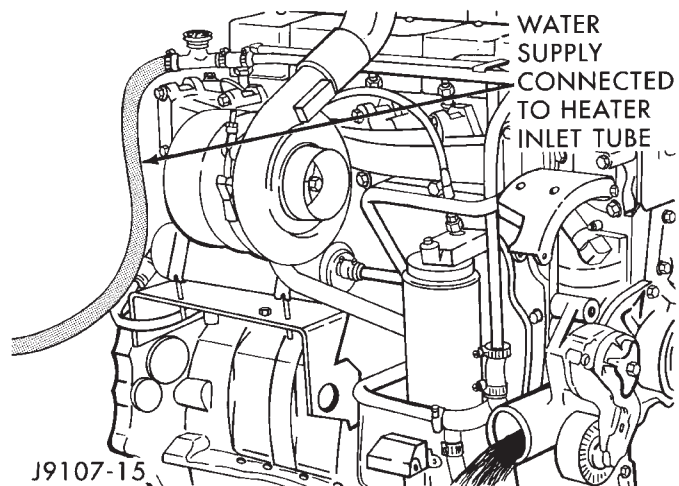

Fig. 35 Typical Reverse-flushing—5.9L Diesel
- (1) Drain the cooling system.
- (2) Disconnect the radiator lower hose from the water inlet connection.
- (3) Remove the heater core inlet hose from tube (Fig. 35).